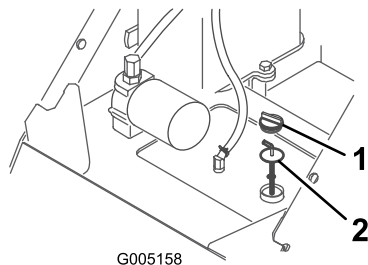

Figure 36
4. Clean the area around the filler neck of the hydraulic tank (Figure 36).
5. Remove the filler-neck cap and check the fluid level on the dipstick (Figure 36).